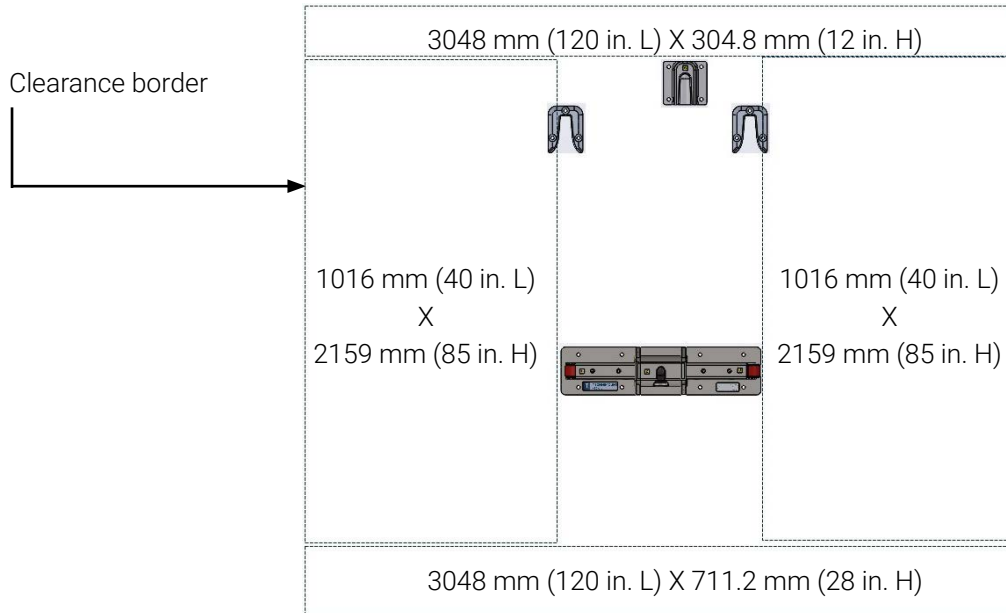

Figure 22: Clearance border measures (central installation)
- For a central installation, a 3048 mm (120 in.) W X 3175 mm (125 in.) L clearance border is recommended (Figure 22).